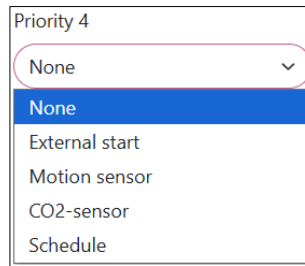

Figure 37: Start Priority example
3. Choose a Priority number and set it to match your requirements. Default value is set to 'None'. Figure 37 below depicts an example in which Priority 4 is opened, and options are shown.